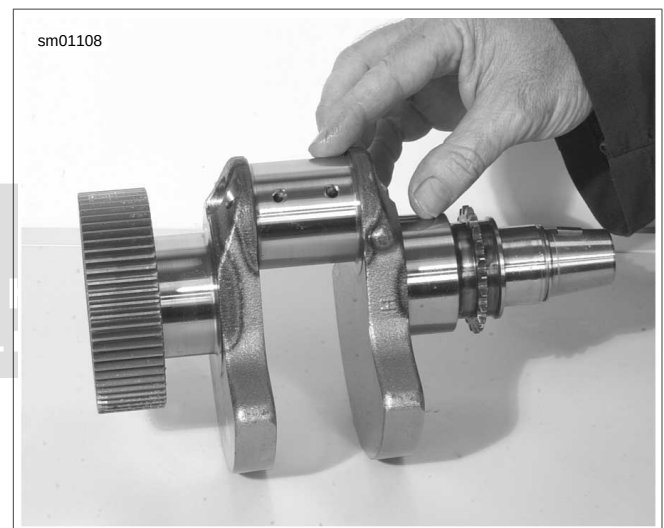

Figure 3-104. Inspect Crankshaft
9. See Figure 3-104. Check journals for scoring, bluing and surface damage. Check main drive gear for wear or missing teeth.